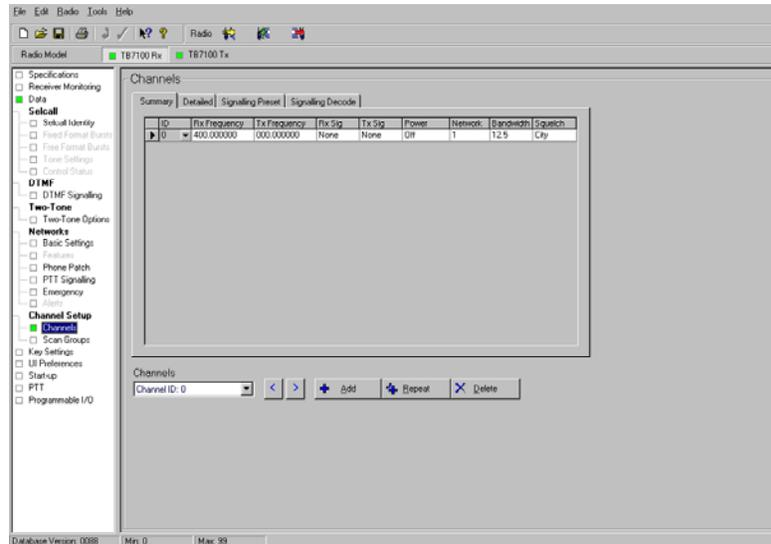

Figure 2
- Enter in the RX channel information required under Channel Setup>Channels. No TX channel information is required. **Refer to figure 2.**